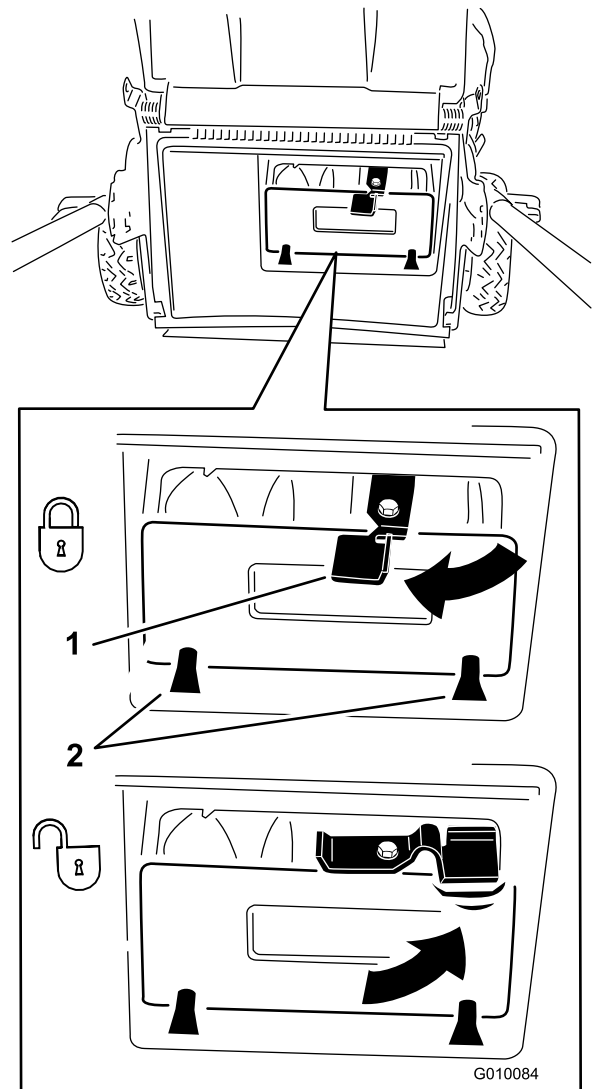

Figure 28
**Important:** Ensure that the rear discharge plug is locked in place. To lock the plug, firmly push the plug in until it snaps into place behind the tabs, and rotate the lever on the plug to the left (Figure 28).
**Note:** To unlock the plug, rotate the lever on the plug to the right (Figure 28).